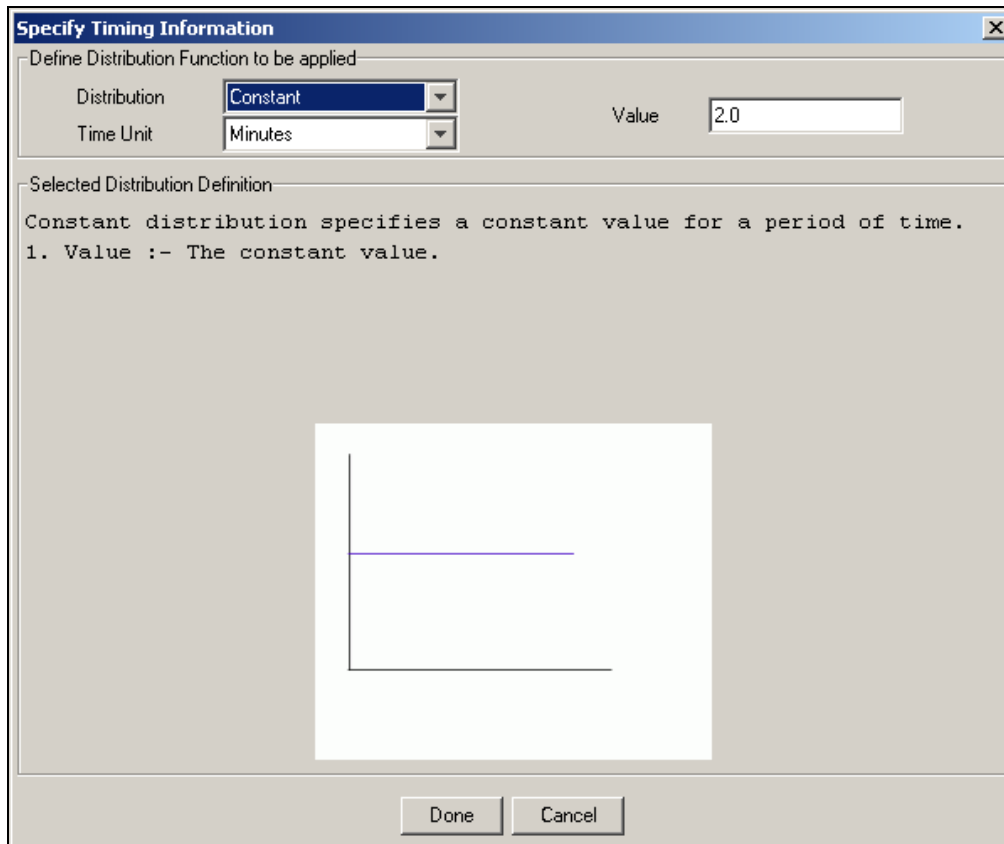

Figure 51: Define Execution Time
1. To assign the execution time, click **Assign** in **Value** column of the **Execution Time** property. The **Specify Timing Information** dialog box is displayed (see Figure 51).